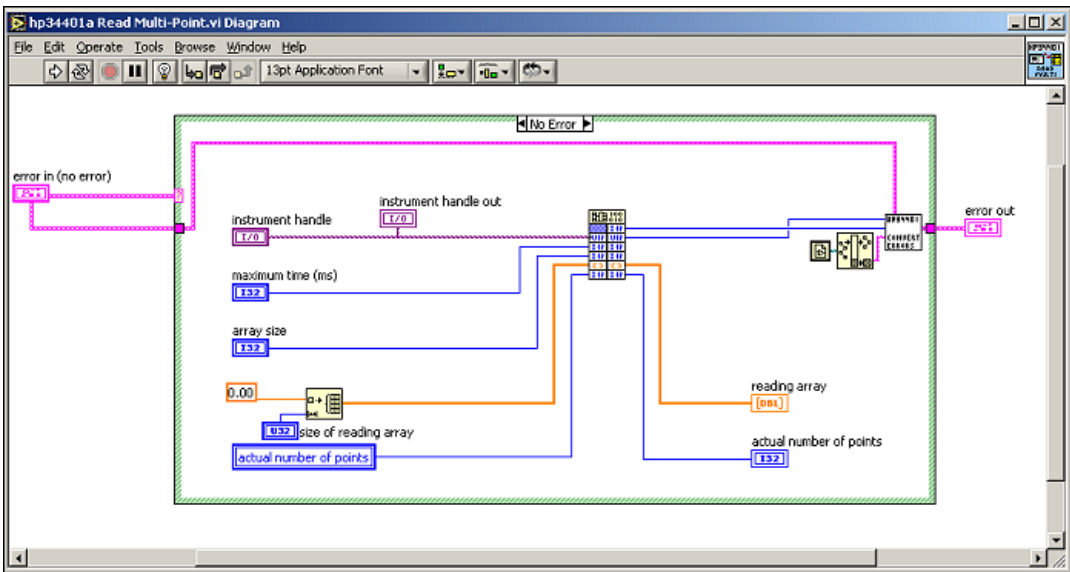

Figure 6. Array Size Manual Update—Before
- a. Check the block diagram for arrays passing into and out of the Call Library node. If there is an array, delete the size of the array control that is passed into the Initialize Array function and replace with the array size control that is passed directly into the Call Library node. Refer to Figures 6 and 7 for before and after examples.